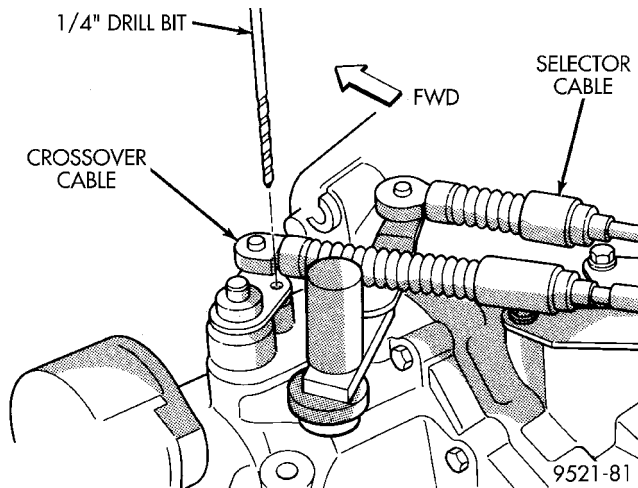

Fig. 140 Crossover Lever Pin Procedure
- (3) Pin transaxle crossover lever in 3-4 neutral position using a 1/4 inch drill bit. Align hole in crossover lever with the hole in the boss on the transaxle case (Fig. 140). Be sure drill bit goes into transaxle case at least one-half inch.
- (4) The shifter is spring-loaded and self-centering. Allow shifter to rest in its neutral position. Torque adjustment screw to 8 N-m (70 in. lbs.). Care must be taken to avoid moving the shift mechanism off-center during screw tightening.